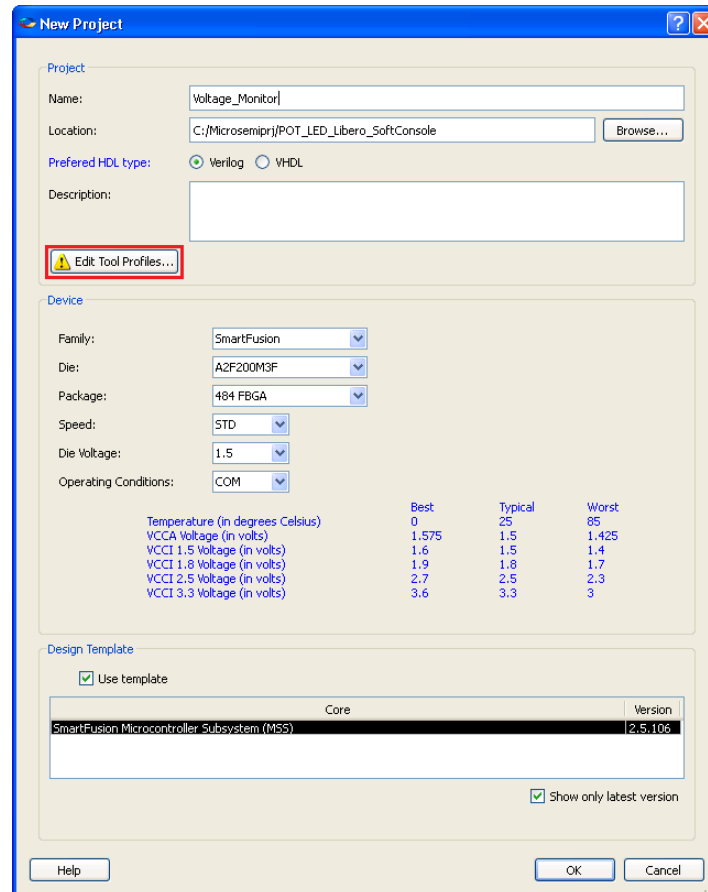

Figure 1 · New project Dialog Box
2. From the **Project** menu, select **New Project**. Enter the information as displayed in Figure 1 .